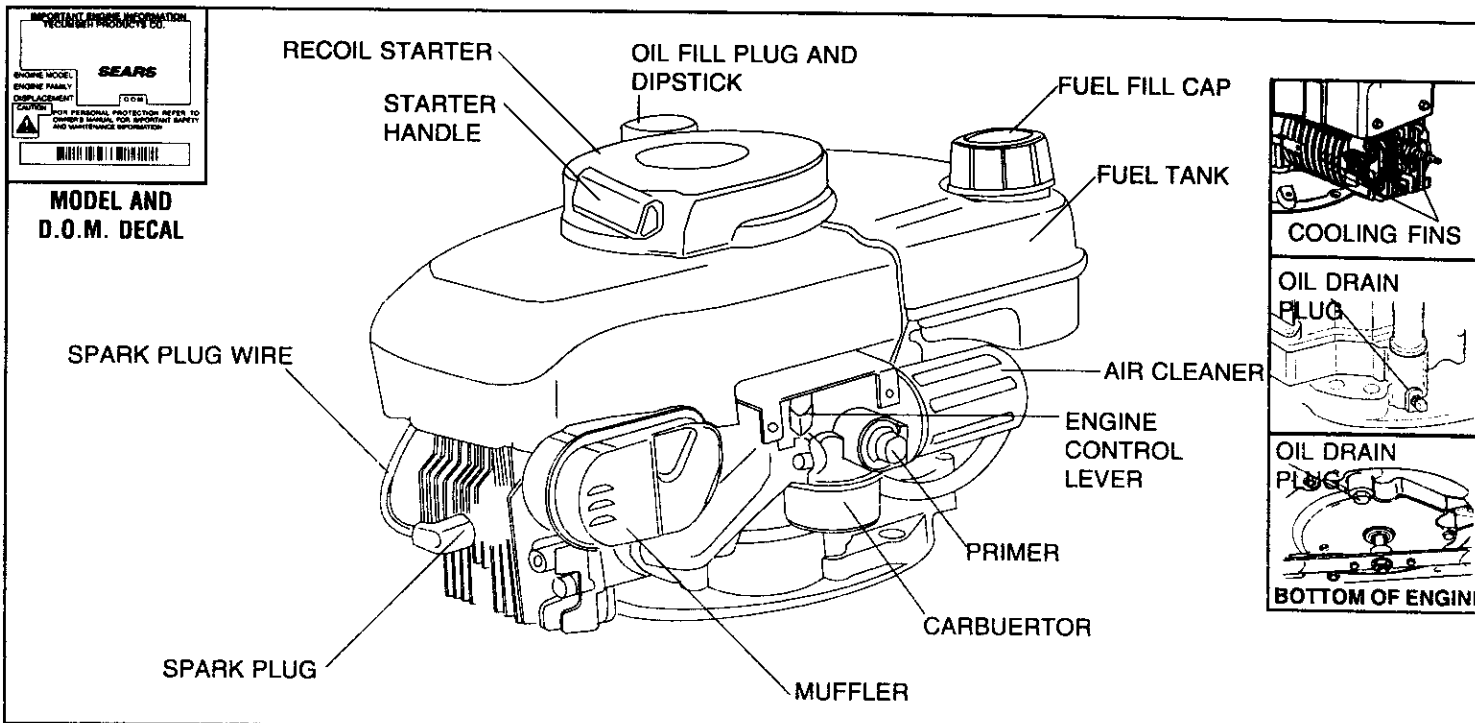

Figure 1
- B. Clean area around oil fill plug (see Figure 1).
- B. Be sure spark plug wire is attached to spark plug (see Figure 1).
① Move engine control (see Figure 1) to HI Position.
2. The carburetor on your engine has been completely adjusted at the factory. When starting a cold engine, push primer button **firmly with your thumb 3 times**, allowing primer bulb to return completely to original position between pushes (figure 1). Below 55°F additional primes may be needed.
- C. Remove oil drain plug and oil fill plug to drain oil (see Figure 1).